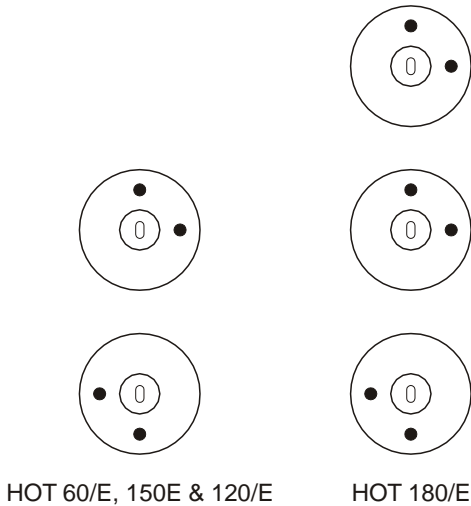

fig 1. Bracket Positions
- Depending on radiator height, drill two or three 12mm diameter holes to a minimum depth of 65mm & insert wall plugs (A).
- Attach brackets (B) to wall with screws (C).
- Position brackets (B) on wall with grub screw holes as shown in figure 1 for maximum rigidity before tightening screws (C).
- Hang radiator onto brackets (B) by inserting lugs into brackets (B).
- Tighten grub screws (D) with allen key (E).